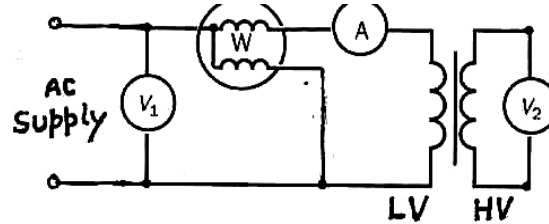

Fig. 13.24 Open-circuit test on a transformer.
This test determines the no load current and the parameters of the exciting circuit of the transformer. The transformer is connected as shown in Fig. 13.24. Generally, the low voltage (LV) side is supplied rated voltage and frequency through an autotransformer (also called a *variatic*). The high voltage (HV) side is left open. The ratio of the voltmeter readings, V_2/V_1 , gives the transformation ratio of the transformer. The reading of ammeter A, I_o , gives the no-